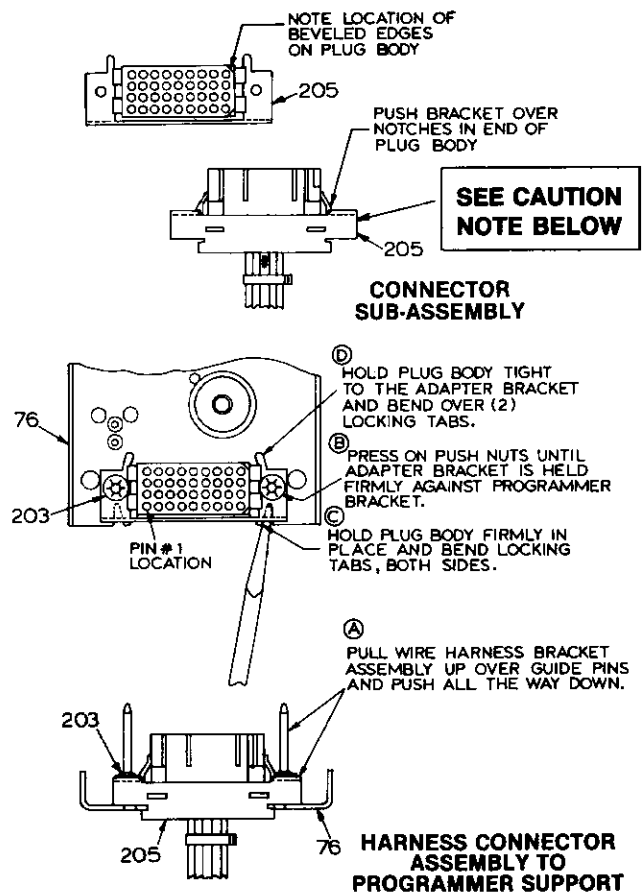

Fig. 9A
14. Place harness connector (100) into the programmer shock mount bracket (76). See Fig. 9A. Install the plug adapter (205) onto the harness connector. Refer to Fig. 9A for proper orientation of the plug connector. Place the combination plug adapter/harness connector over the guide pins and slide the assembly down the pins until the slots in the plug adapter align with the retaining tabs in the shock mount bracket. Bend the tabs in the shock mount bracket into the plug adapter to capture the plug assembly on both sides. Check that the "PULL TO UNLOCK" tab is out so that the bracket can accept the programmer. Install the programmer.
CAUTION—ADAPTER BRACKET (205) MUST BE INSTALLED ONTO HARNESS PLUG AS SHOWN IN FIG. 9A TO RIGHT. FAILURE TO DO SO WILL RESULT IN HARNESS PLUG FAILURE AND PROGRAMMER WILL NOT PROVIDE ANY PROTECTION.